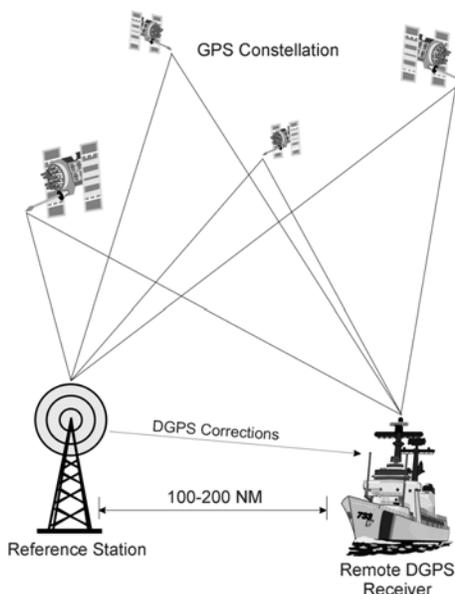

Figure I-1 Radiobeacon DGPS Pictorial
Radiobeacon DGPS is a user-friendly system consisting of local beacon transmitting sites and easy to operate, inexpensive user equipment. Transportation and Marine authorities around the world have installed large public networks of DGPS Radiobeacons. These radiobeacon stations transmit real-time differential corrections to remote users free of charge, for the purpose of enhancing GPS accuracy. The medium frequency (MF) signal transmitted by radiobeacons provides robust signal coverage at large ranges from the transmitting site (283.5 to 325 kHz). Figure I-1 describes the radiobeacon DGPS.